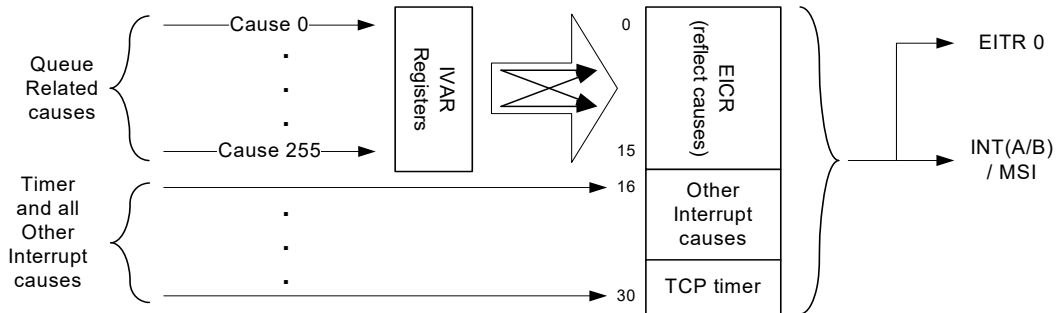
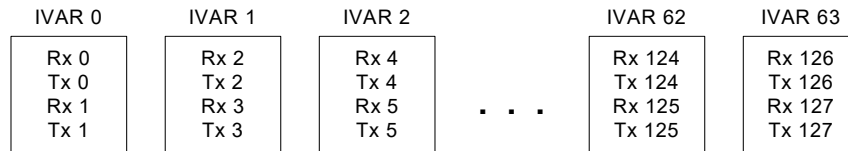
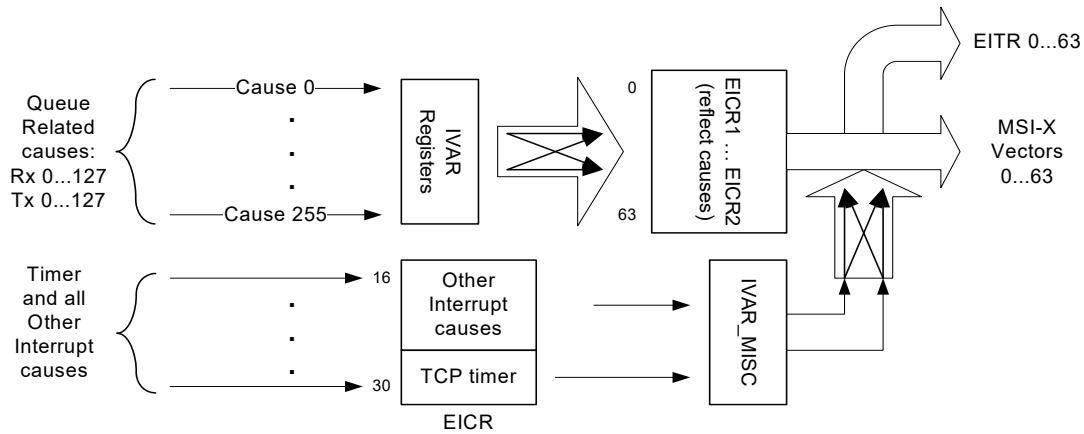

Figure 7-23. Cause Mapping in Legacy and MSI Modes
Figure 7-24. Rx and Tx Queue Mapping to IVAR Registers
Figure 7-25. Cause Mapping in MSI-X Mode (non-IOV)
Time-based interrupt throttling is useful to limit the maximum interrupt rate regardless of network traffic conditions. The ITR logic is targeted for Rx/Tx interrupts only. It is assumed that the software device driver does not moderate the timer, other and mail box (IOV mode) interrupts. In non-IOV mode, all 64 interrupts can be associated with ITR logic. In IOV mode, the ITR logic is shared between the PF and VFs as shown in Figure 7-23. The ITR mechanism is based on the following parameters:
Mapping the Tx and Rx queues to interrupt bits in the EICR register is programmed in the IVAR registers as shown in Figure 7-23. Each entry in the IVAR registers is composed of two fields that identify the associated bit in the EICR[15:0] register. Software might map multiple Tx and Rx queues to the same EICR bit.
Mapping between the Tx and Rx queue to the IVAR registers is hard-wired as shown in the Figure 7-24.
The TCP timer and other events are reflected in EICR[30:16] the same as the legacy and MSI mode. It is then mapped to the MSI-X vectors by the IVAR\_MISC register as shown in Figure 7-25. The IVAR\_MISC register includes two entries for the timer interrupt and an additional entry for all the other causes. The structure of each entry is as follows:
The Tx and Rx queues are associated to the IVAR0...IVAR63 the same as legacy and MSI mode shown in Figure 7-24. The Tx and Rx queues are mapped by the IVAR registers to EICR(1),...EICR(2) registers and MSI-X vectors 0...63 illustrated in Figure 7-25. The IVAR entries have the same structure as the IVAR\_MISC register previously shown. Each bit in EICR(1...2) registers is associated to MSI-X vector 0...63 as follows:
- EICR, EICS, EIMS and EIMC — When software programs the higher 16 bits of these registers, it should set their lower 16 bits to zero's keeping the EICR(1), EICS(1), EIMS(1) and EIMC(1) unaffected.
- EIAM — When software programs the higher 16 bits, it should keep the lower 16 bits at their previous setting so the EIAM(1) is unaffected.
PF is responsible for the timer and other interrupt causes that include the VM to PF mailbox cause (explained in the virtualization sections). These events are reflected in `EICR[30:16]` and MSI-X vectors are the same as the non-IOV mode (illustrated in Figure 7-23). When there are less than the maximum possible active VF's, some of the Tx and Rx queues can be associated with the PF. These queues can be used for the sake of additional VM's serviced by the hypervisor (the same as VMDq mode) or some Kernel applications handled by the hypervisor. Tx and Rx mapping to the IVAR registers is shown in Figure 7-24 and mapping to the EICR, `EICR(1),...EICR(2)` registers as well as the MSI-X vectors is shown in Figure 7-25. See Section 7.3.4.3.3 for MSI-X vectors mapping of PF and VF's to the EITR registers.